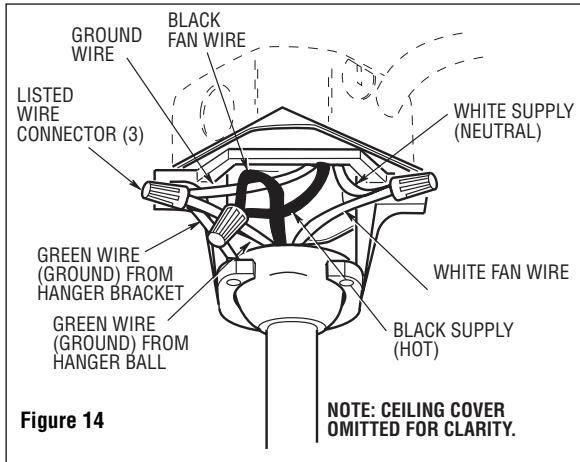

Figure 14
2. Securely connect the fan motor white wire to the supply white (neutral) wire using wire connector supplied (Figure 14). Securely connect the fan motor black wire to the supply black (hot) wire using wire connector supplied (Figure 14). After connections have been made, turn leads upward and carefully push leads into the outlet box, with the white and green leads on one side of the outlet box and the black leads on the other side of the outlet box.